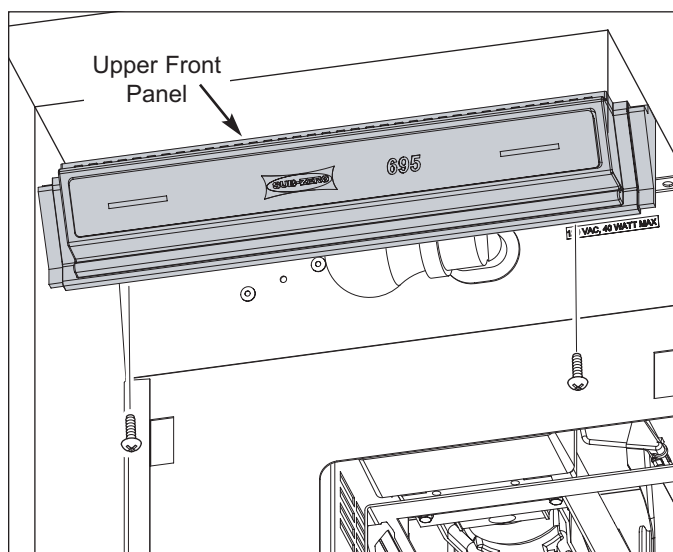

Figure 7-111. Upper Front Panel
To remove a upper front panel (See Figure 7-111):
**NOTE:** There is no upper light diffuser in the freezer. The light bulbs are located directly behind the upper front panel (See Figure 7-111).